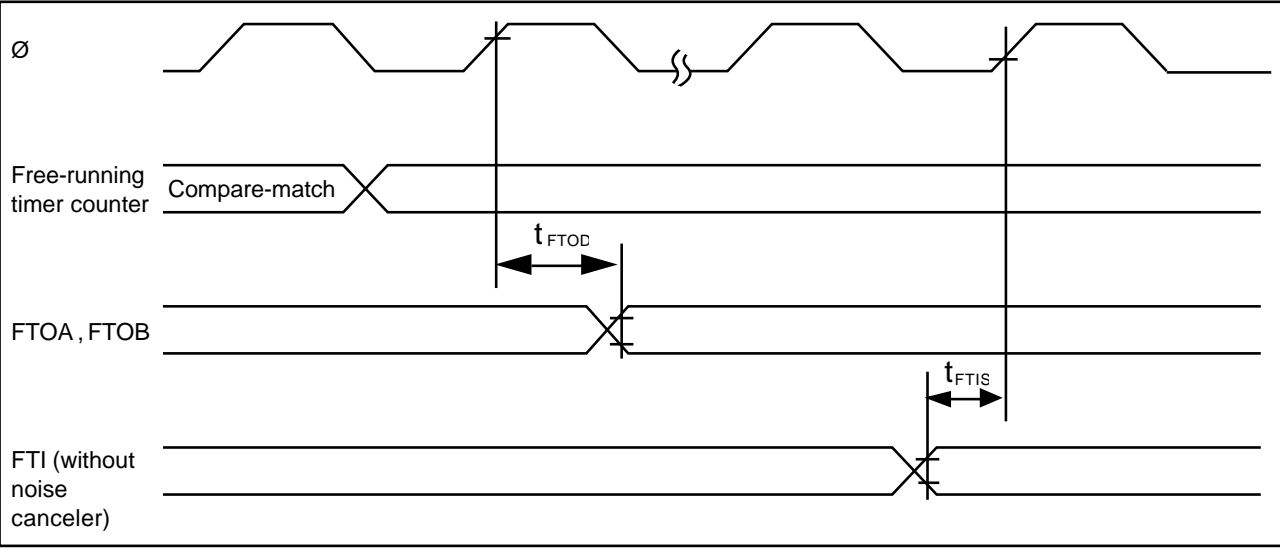

Figure 15-11. Free-Running Timer Input/Output Timing
15.3.3 16-Bit Free-Running Timer Timing	Figures 15-11 to 15-12